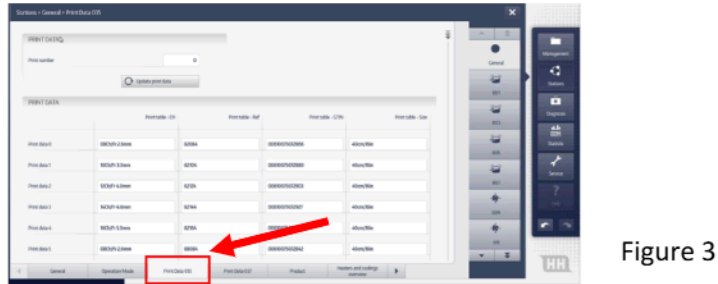

Figure 3
- 3. Press the Print Data 035 Tab on the bottom of the screen of the HMI (Figure 3)